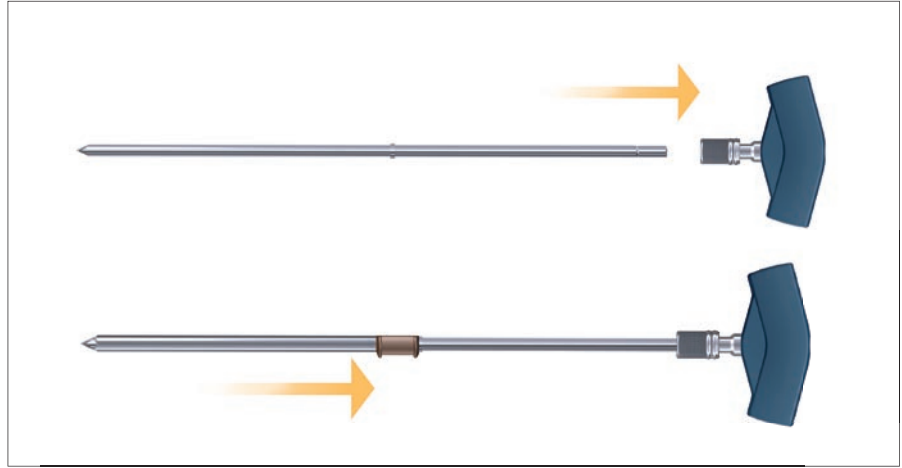
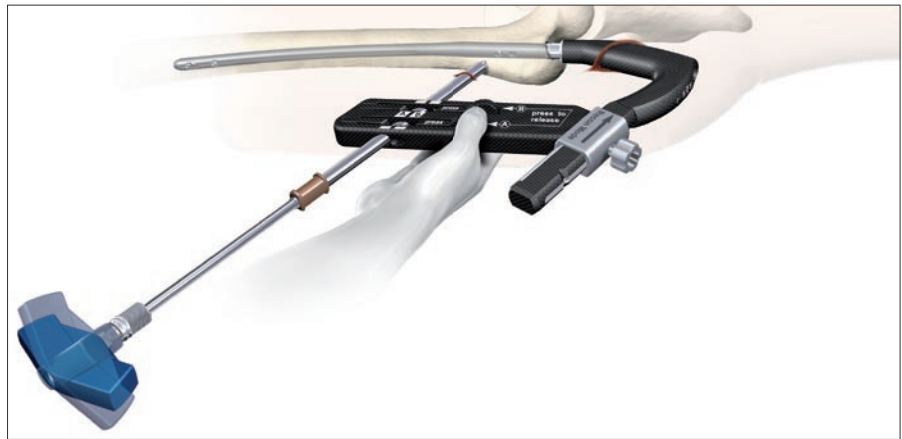

Fig. 20
Fig. 21
Now attach the Paddle Trocar, Recon, to the T-Handle, AO Medium Coupling (Fig. 20). Then, advance them together with the Tissue Protect Sleeve, Recon to the skin through the distal (A) hole on the Targeting Arm, Recon by pressing the distal safety clip. The Targeting Arm has a locking mechanism and it opens and closes by pressing the distal safety clip. This mechanism will keep the sleeve in place and prevent it from sliding out. A small skin incision is made and the assembly is pushed through until it is in contact with the lateral cortex (Fig. 21).
If the dashed wire of the target appears between the two solid wires, then advance the Tissue Protection Sleeve and Trocar, Recon as shown in Fig. 20.